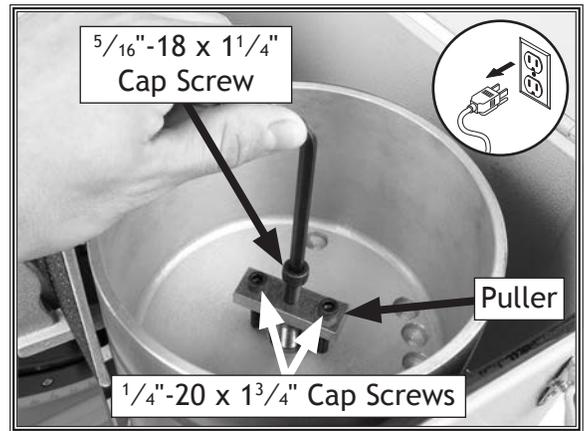

Figure 34. Using the drive roller puller.
3. Thread (2) $\frac{1}{4}$ "-20 x $1\frac{3}{4}$ " cap screws on puller four turns into threaded holes in drive roller (see **Figure 34**).
4. Thread and tighten $\frac{5}{16}$ "-18 x $1\frac{1}{4}$ " cap screw into center of puller, shown in **Figure 34**, until drive roller is pulled.